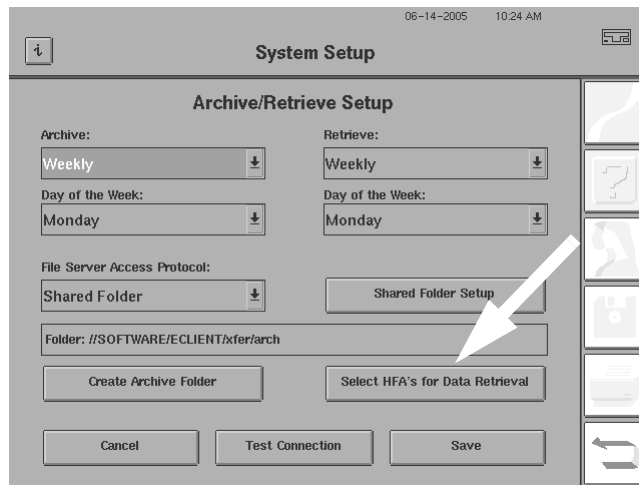

Figure I.23 Archive/Retrieval Screen
- 5 Touch the SELECT HFA'S FOR DATA RETRIEVAL button (Figure I.23).